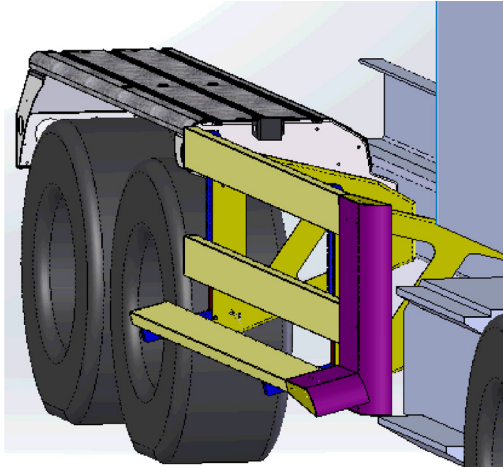

Figure 121
3. Install each lower pin through the open holes in each bottom rail and gusset (Figure 121).